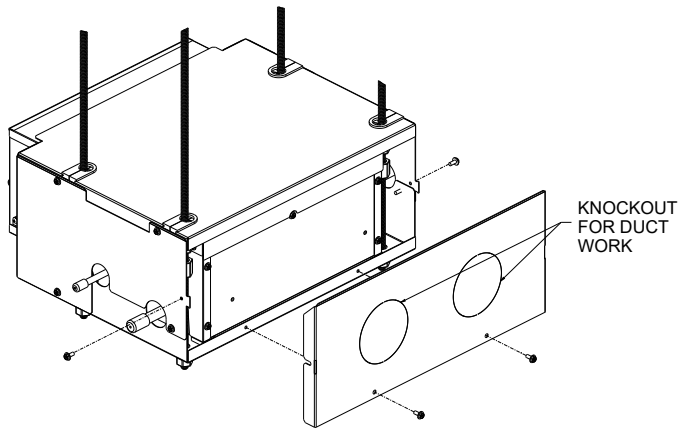

**FIGURE H.1**
- 3.3 Use the specified screws to secure the panel at each indicated location, and confirm the Edge Seal is correctly seated. (Refer to Figures H.1 and H.2)